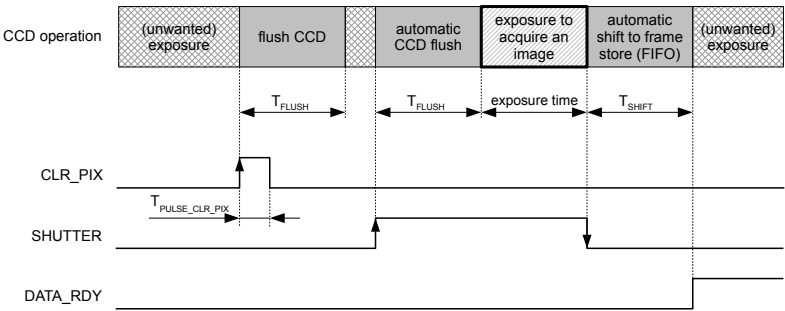
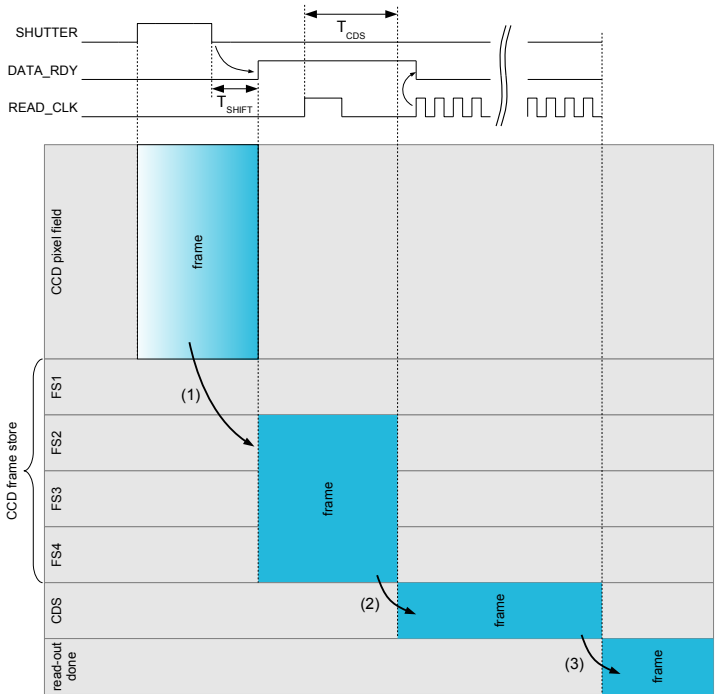
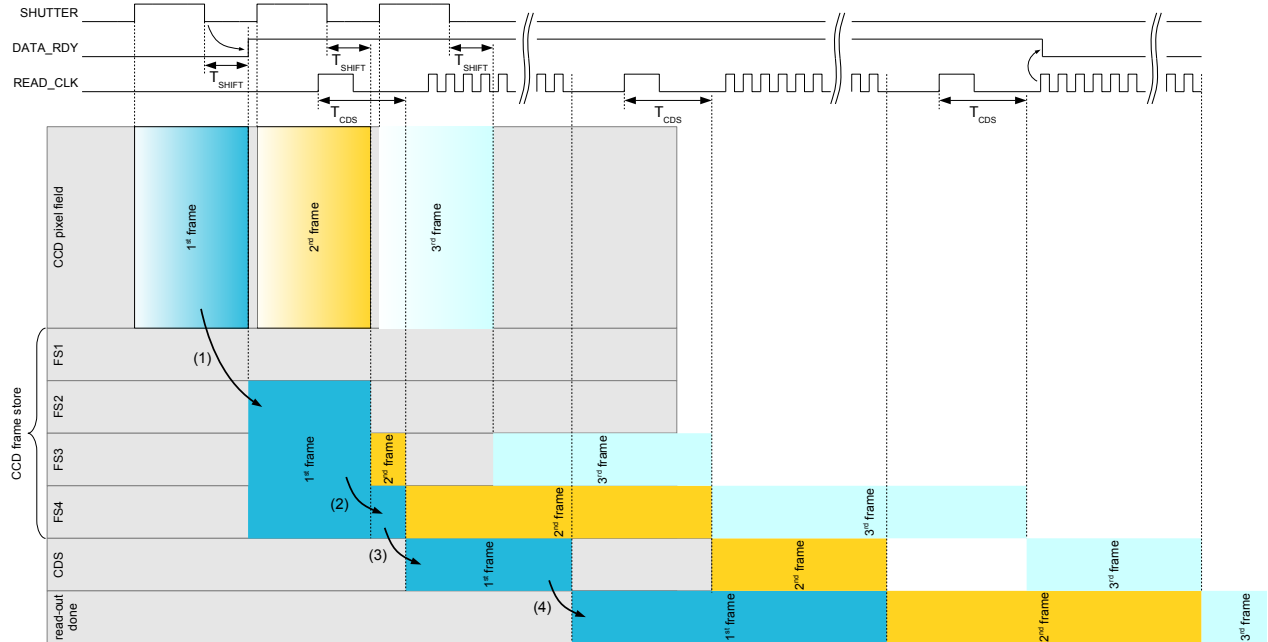
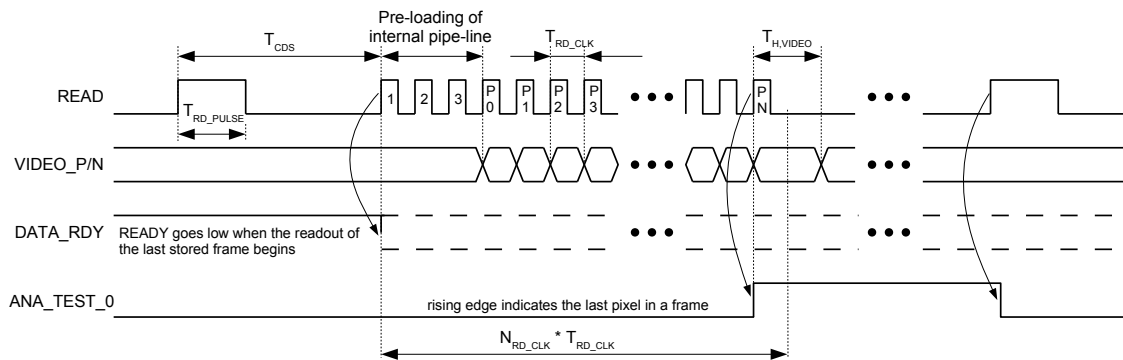

Figure 9: Image acquisition timing
Figure 10: Example of single-frame acquisition and read-out
Figure 11: Multi-frame acquisition and read-out
Figure 12: Image readout timing of one frame
The acquisition of a frame is controlled by a pulse on the SHUTTER pin (see Figure 9). The rising edge triggers the internal flush operation to erase the CCD from any unwanted electrons prior to the exposure. The exposure starts automatically after the flush operation is completed. The CCD collects electrons thereafter as long as the SHUTTER pin is high. Upon the falling edge of SHUTTER, the charge collected in the CCD pixel field is shifted to the CCD frame store which is an area which is not photo-sensitive (see (1) in Figure 10). As soon as the frame is ready for read-out, the signal DATA\_RDY goes high. The image is ready to be readout as described in section 5.4
Up to 4 images can be acquired and stored in the frame store in a fast sequence without intermediate read-out. The frame store is organized in 4 frame store elements (FS1-FS4), thereby each frame store element can store one frame/image. The first captured image initially occupies 3 frame store elements as for a single-frame acquisition (see section 5.2 and Figure 10). epc90x automatically detects a multi-frame acquisition when detecting the second SHUTTER signal without prior read-out. Upon the second shutter, the first image is shifted to a single frame store element (see (2) in Figure 11). The frames are shifted from the pixel field to the frame store as a FIFO: The first captured image is the first one to read out. The read-out is described in more detail in section 5.4. As soon as 4 frames have been captured without prior read-out, at least one read-out has to be issued prior the next shutter in order to make FS1 available again. Excessive shutter pulses are ignored.
The first pulse of a read sequence applied to pin READ is a Read Pulse and must have a duration of  $T_{RD\_PULSE}$ . Upon this Read Pulse, the last frame in the frame store is converted pixel-wise from charge to voltage. This operation is called correlated double-sampling (CDS) and lasts for the time  $T_{CDS}$ . Following the Read Pulse, respecting a delay of at least  $T_{CDS}$ , Read Clock pulses are applied to the READ pin in order to transfer the pixel voltages to the VIDEO\_P/N pins. The first 3 Read Clock pulses, designated with 1, 2 and 3 in Figure 12, are used to pre-load the pipeline. Thus the first 3 pixel voltage values on VIDEO\_P/N can be ignored. The subsequent Read Clock pulses, designated with P0 ... PN in Figure 12, transfer the pixel voltage values through the video amplifier to the VIDEO\_P/N pins.
The signal DATA\_RDY remains high as long as there is at least one frame stored in the CCD frame store. If no more frames are stored except the one that is currently read out, the signal DATA\_RDY goes to low state on the first positive Read Clock edge (see Figure 12). If no frame is stored, the chip does nothing upon a Read Pulse.
- The following time periods shall never overlap in any multi frame acquisition or by parallel reading during exposure:  $T_{\text{FLUSH}}$  with  $T_{\text{CDS}}$  and  $T_{\text{SHIFT}}$  with  $T_{\text{CDS}}$ . Refer for these signal to Figure 9 and Figure 12.